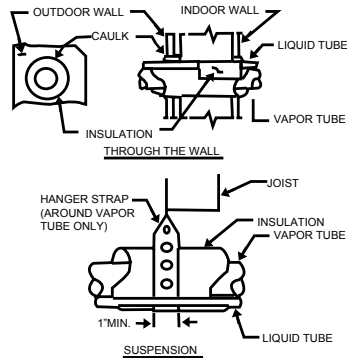

Fig.22 Connecting Tubing Installation
5. When passing refrigerant tubes through the wall, seal opening with RTV or other pliable silicon-based caulk.(See Fig. 22.)
7. Do not suspend refrigerant tubing from joists and studs with a rigid wire or strap which comes in direct contact with tubing. (See Fig. 22.)
9. When necessary, use hanger straps which are 1 in. wide and conform to shape of tubing insulation. (See Fig. 22.)